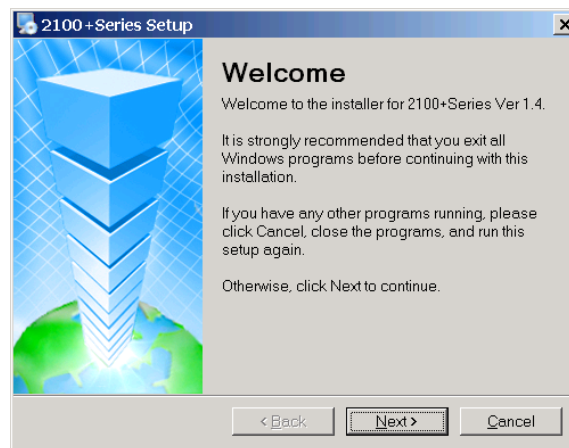

Fig. 1 Setup Startup Screen
Step 3: Click **setup.exe**. The setup screen will pop up as shown in Fig. 1.